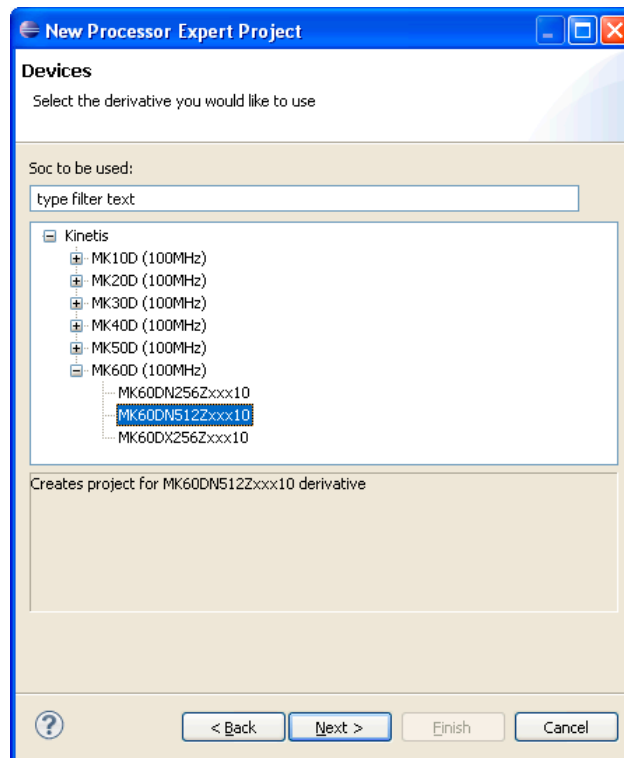

Figure 2. New Processor Expert Project Wizard– Devices Screen
5. Click **Next** to display the **Devices** screen as shown in Figure 2.